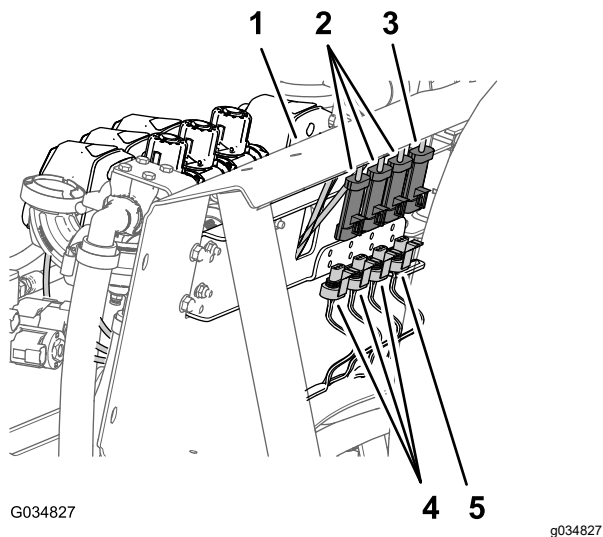

Figure 23
2. At the back of the manifold mount, disconnect the 3-socket connector from the agitation valve and the 3-socket connectors from the 3 boom-section valves (Figure 23).